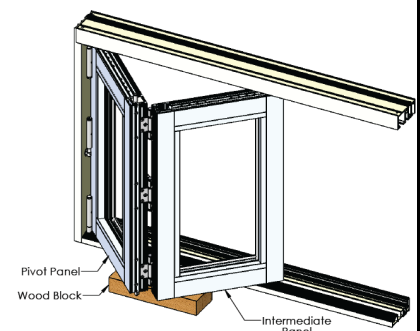

Figure 23:
- B. Swing / position the 'receiving' panel to a 45 degree open angle and place a block of wood and/or shim under the outside bottom corner to support the panel weight (Figures 23 and 28).